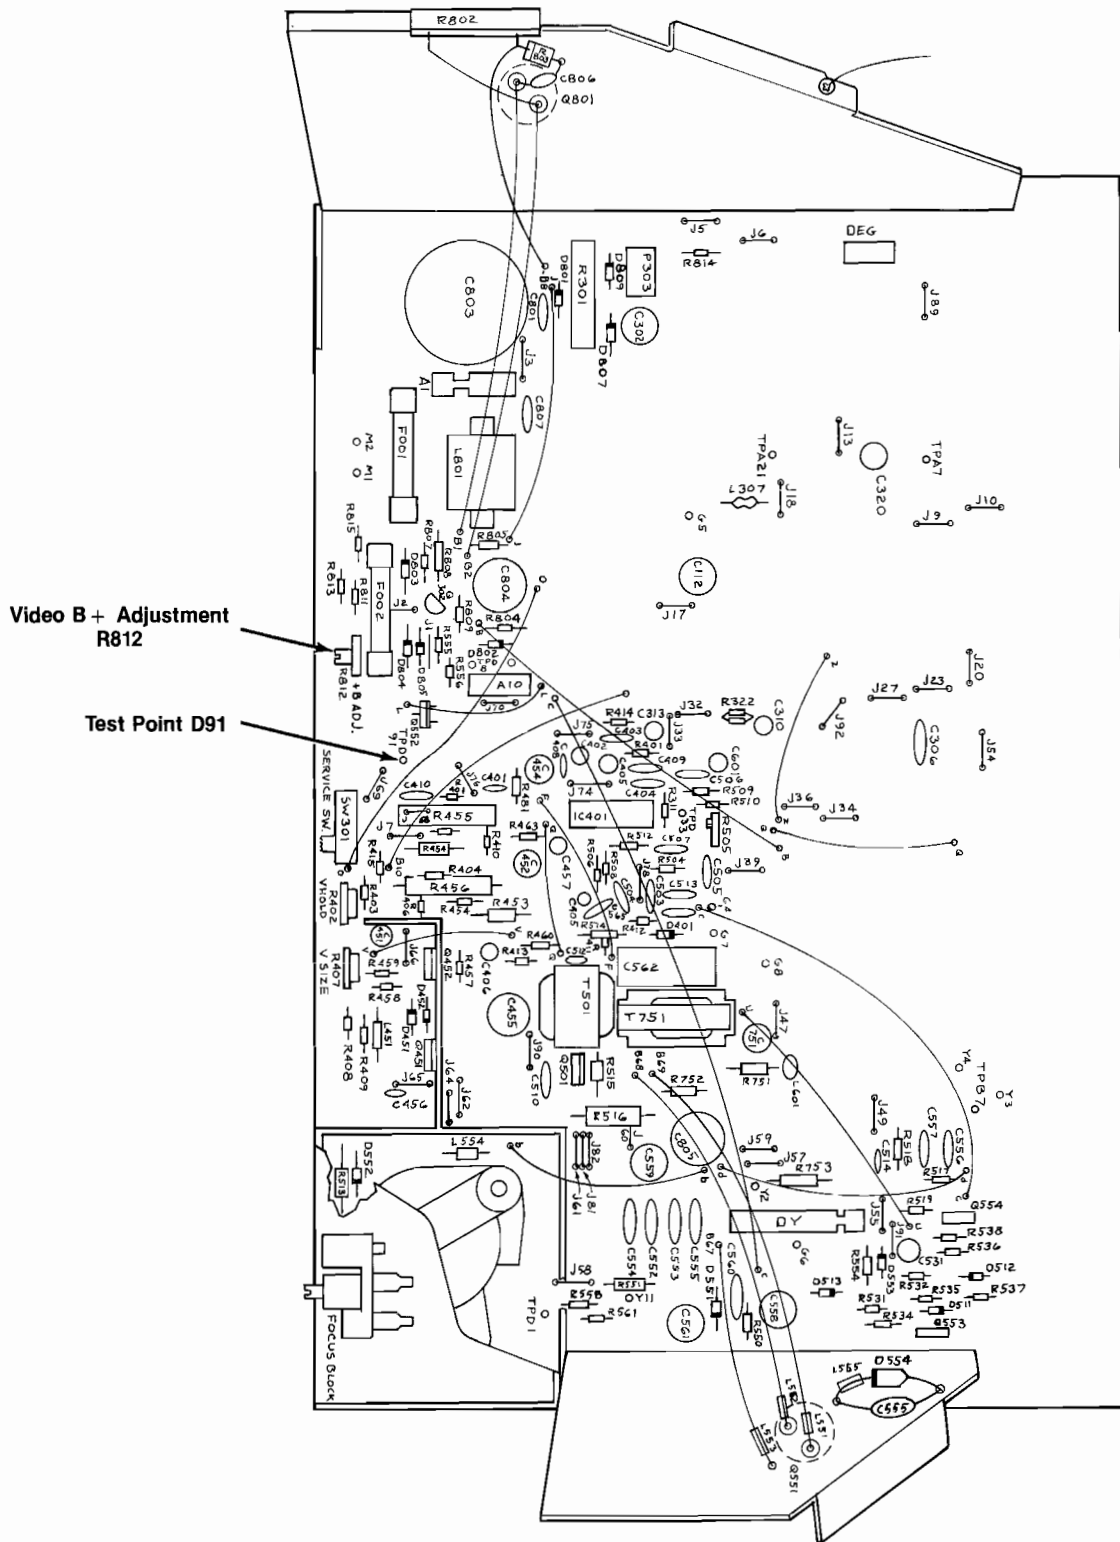

Figure 17 Locations of Video B + Adjustment R812 and Test Point D91
4. Connect the plus lead of the voltmeter to test point D91, which is shown in Figure 17.
6. Adjust R812 on the Main PCB, shown in Figure 17, for a voltmeter reading of +123 volts.